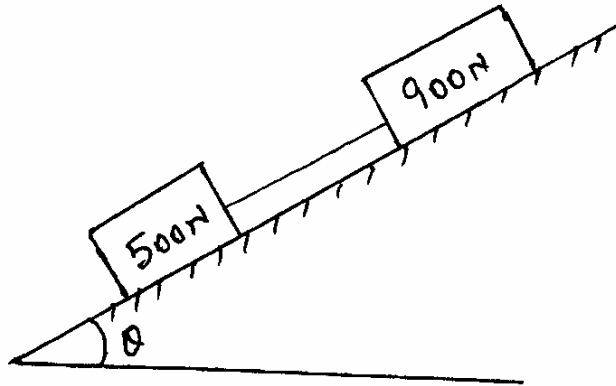

Fig. 8.
- (ii) Two blocks of weight 500 N and 900 N connected by a rod are kept on an inclined plane as shown in Fig. 8. The rod is parallel to the plane. The coefficient of friction between 500 N block and the plane is 0.3 and that between 900 N block and the plane is 0.4. Find the